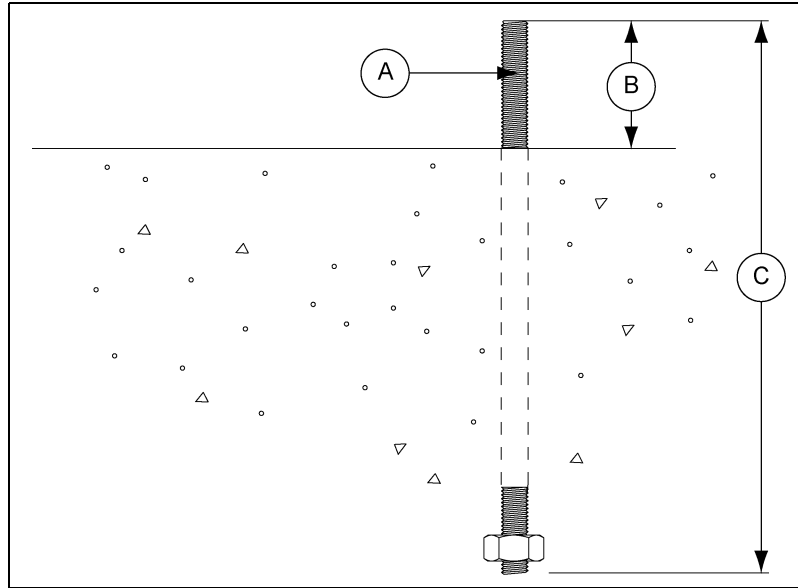

Figure 1A Anchor Bolt Example (3/4" Diameter Anchor Bolt Shown)
1. 5/8" Diameter anchor bolt (A) is the minimum allowed, 3/4" diameter anchor bolt (A) is the minimum with sidedraw flume system.
2. Exposed anchor bolt thread height (B) for 5/8" and 3/4" diameter anchor bolts are 3" (7.6 cm) and 5" (12.7 cm) respectively.
3. Overall anchor bolt length (C) for 5/8" and 3/4" diameter anchor bolts are 14" (35.56 cm) and 18" (45.72 cm) respectively. (See Figure 1A.)